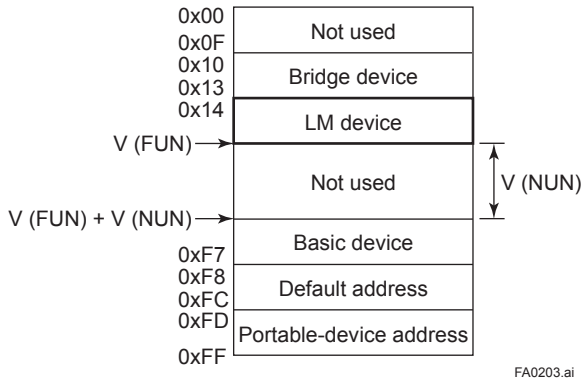

Figure 3. Node Address Ranges
- (3) In the LAS settings of the YVP, set the values of V(FUN) and V(NUN) so that they include the node addresses of all nodes within the same segment. (See also Figure 3.)
**ConfiguredLinkSettingsRecord (YVP Index 369 (SM))**